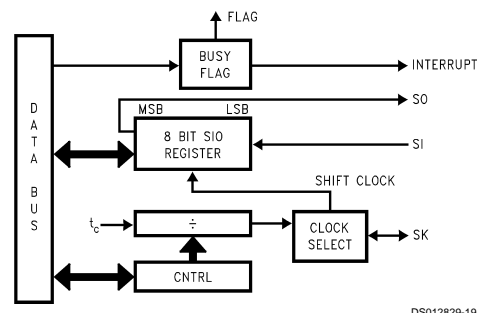

FIGURE 19. MICROWIRE/PLUS Block Diagram
MICROWIRE/PLUS is a serial synchronous communications interface. The MICROWIRE/PLUS capability enables the device to interface with any of National Semiconductor's MICROWIRE peripherals (i.e. A/D converters, display drivers, E2PROMs etc.) and with other microcontrollers which support the MICROWIRE interface. It consists of an 8-bit serial shift register (SIO) with serial data input (SI), serial data output (SO) and serial shift clock (SK). Figure 19 shows a block diagram of the MICROWIRE/PLUS logic.